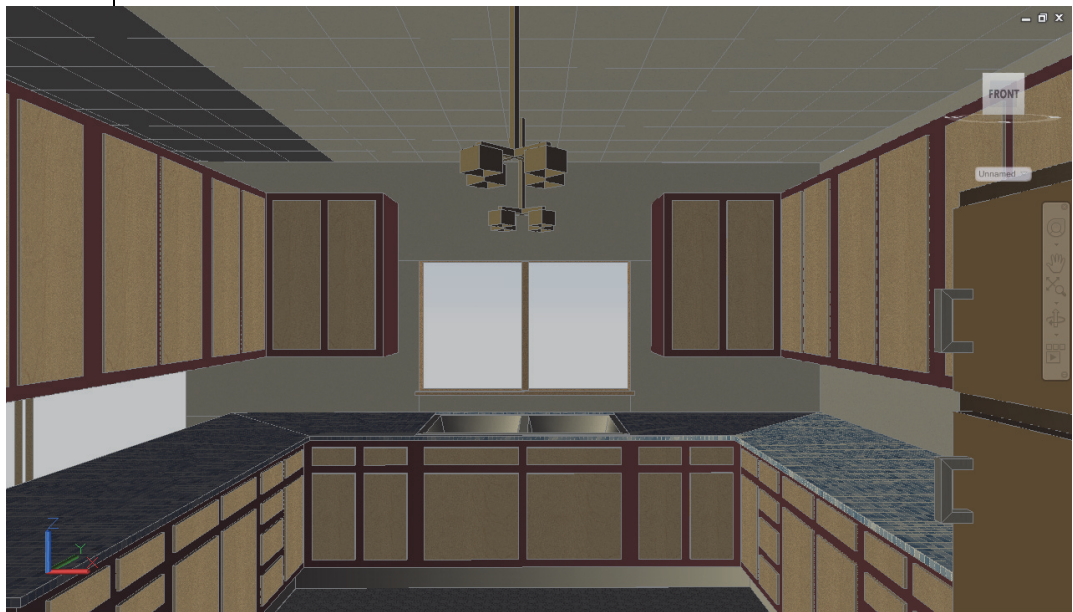

Figure 8–37
12. Click **Apply**. Click **OK** to close the View Manager. If a warning box opens, accept the option to toggle off the default lighting. The model should display as shown in Figure 8–37.